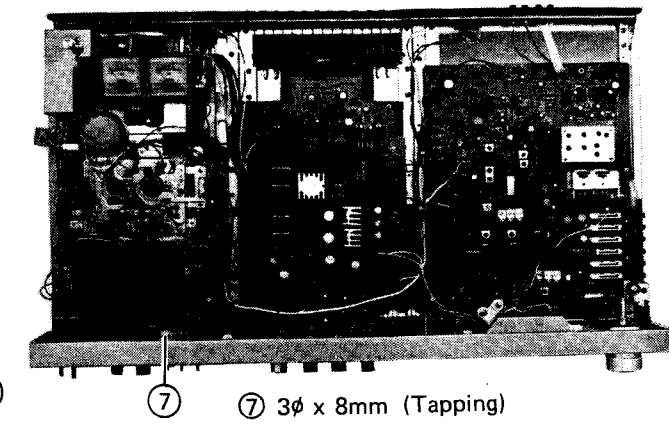

Figure 10.
3. Remove 1 screws ⑦. See figure 10.